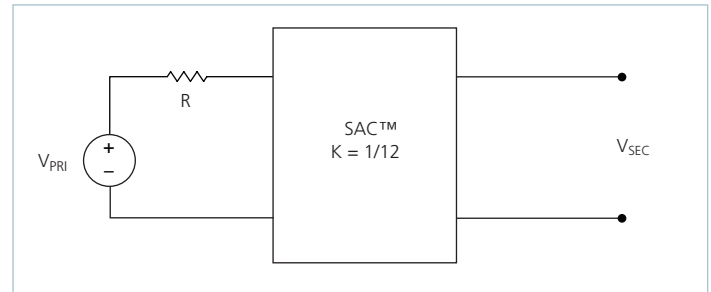

Figure 18 — K = 1/12 Sine Amplitude Converter™ with series primary resistor
The use of DC voltage transformation provides additional interesting attributes. Assuming that $R_{SEC} = 0\Omega$ and $I_Q = 0A$, Eq. (3) now becomes Eq. (1) and is essentially load independent, resistor R is now placed in series with V_{PRI} as shown in Figure 18.
Assuming that $R = 1\Omega$, the effective R as seen from the secondary side is $6.9m\Omega$, with $K = 1/12$ as shown in Figure 18.